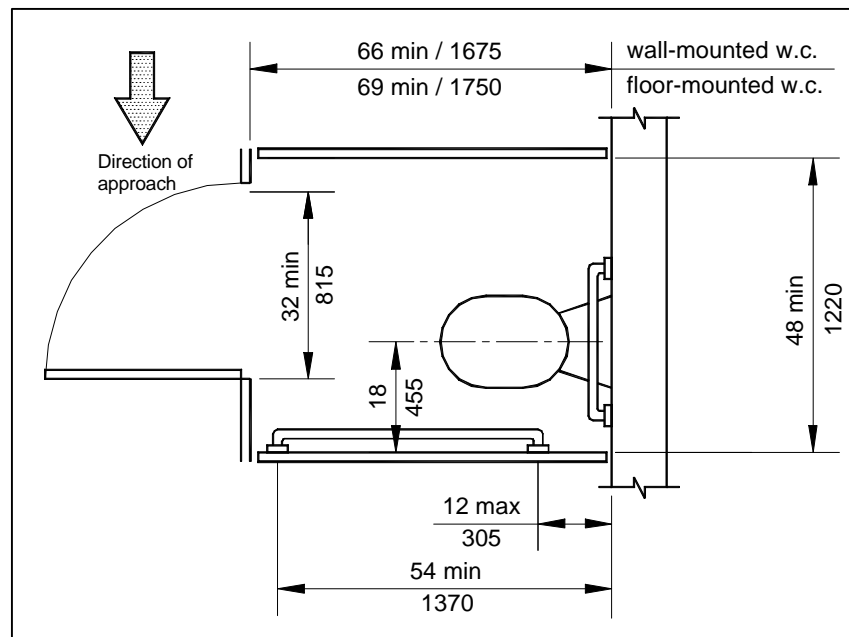

Figure 11: Alternate Wheelchair Accessible Stall (for upgrading only)
1. **ALTERNATE STALL:** An alternate stall (Figure 11) may be installed in the existing toilet room **ONLY IF** installing a wheelchair accessible stall involves the removal or alteration of a structural member that is an essential part of the structural frame and the existing number of fixtures must be maintained per the plumbing code.